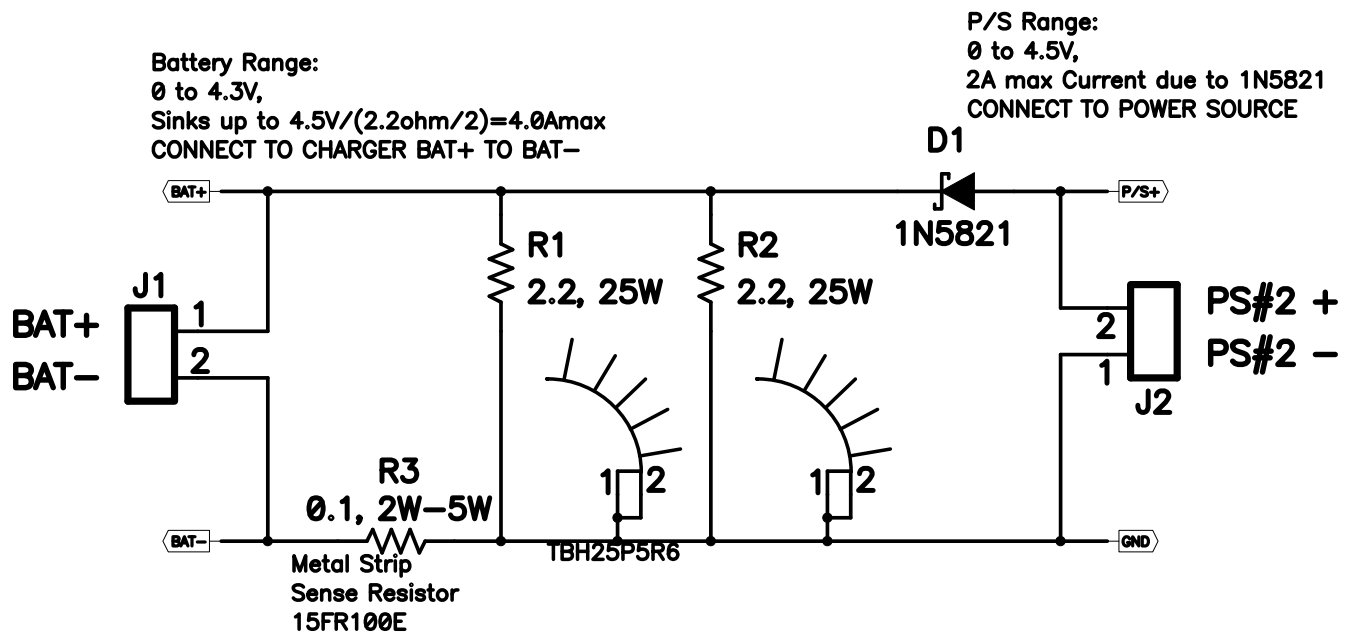
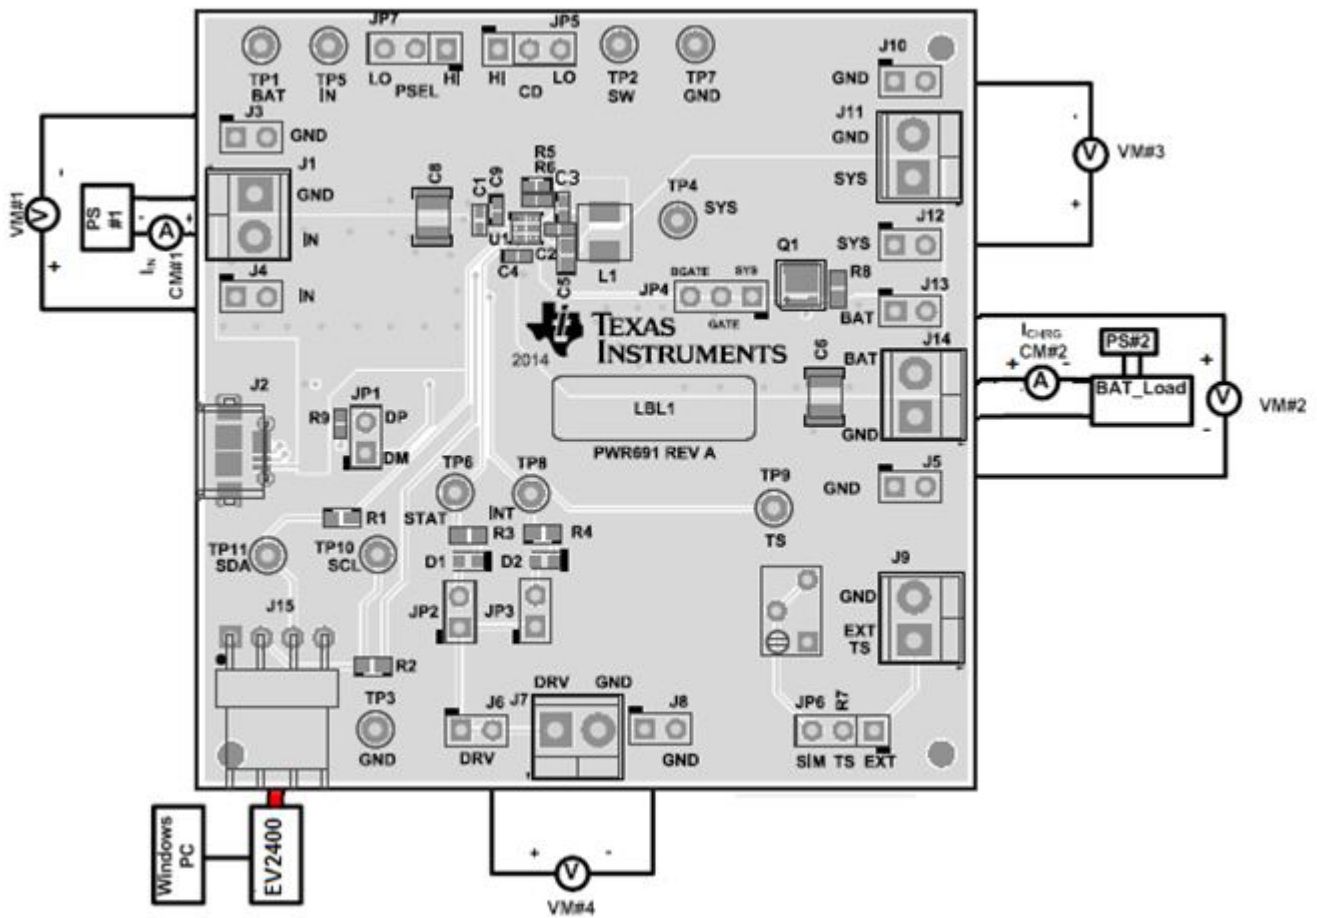

Figure 2. BAT_Load (PR1010) Schematic
Figure 4. Original Test Setup for BQ24188EVM-691
2. If not using a battery as the load, then power supply #2 (PS #2) capable of supplying up to 5 V at 5 A is required to power the circuit shown in Figure 2.
Testing with an actual battery is the best way to verify operation in the system. If a battery is not available, then a circuit similar to the one shown in Figure 2 can simulate a battery when connected to a power supply.
9. After the preceding steps have been performed, the test setup for BQ24188EVM-691 is configured as is shown in Figure 4.
2. Ensure that the shunts are installed as highlighted in yellow in Figure 4.
3. Connect the output of Power Supply #1 (PS #1), with at least a 4-A current limit setting, in series with current meter (multimeter) #1 (CM #1) to J1 as shown in Figure 4.
5. Connect either a real single cell lithium ion battery or battery simulator across J14 or J13/J5 (BAT, GND) with current meter #2 in series as shown in Figure 4. If using a battery simulator like the one shown in Figure 2 and referred to as BAT_LOAD in Figure 4, configure power supply #2 (PS#2) with at least 4-A current limit for 3.4 V.